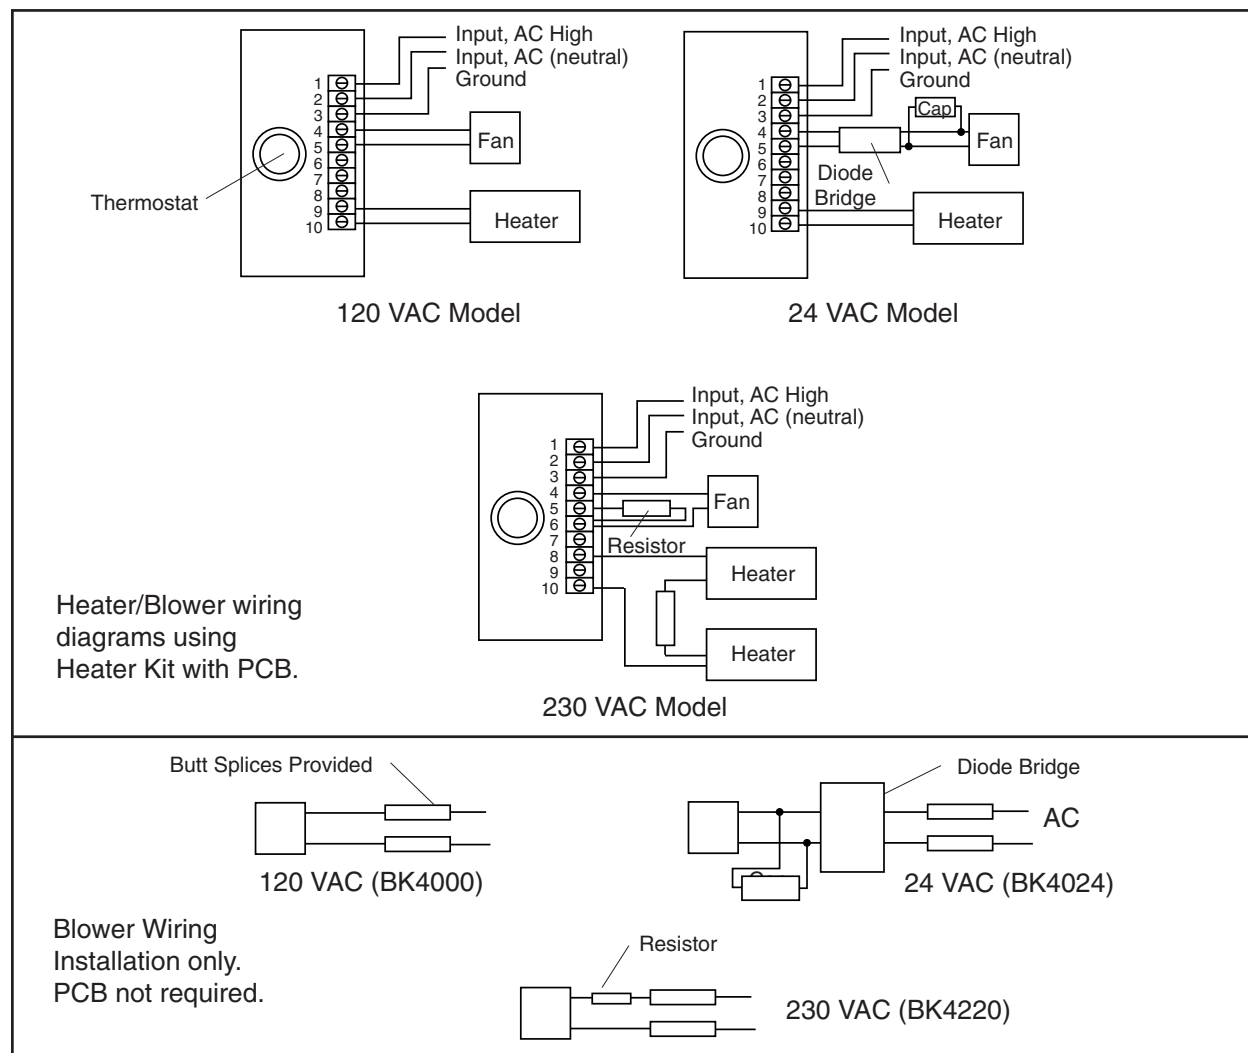

Figure 3. Heater/Blower Wiring Diagram
2. Attach the bracket with the terminal strip and heater thermostat to the rear plate using two (2) 6-32 self-tapping screws, mount onto the drilled-out holes.
4. Wire according to the wiring diagram in Figure 3.
3. Wire according to the wiring diagram in Figure 3.